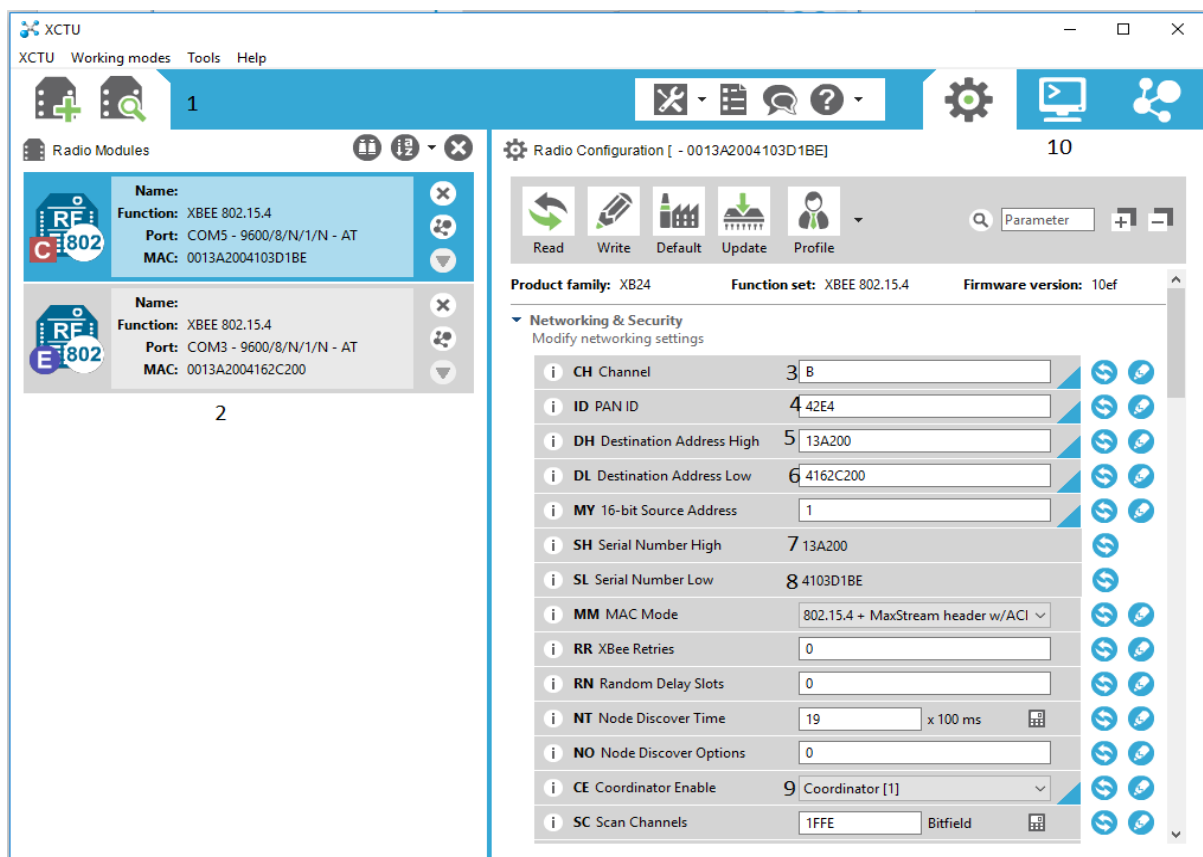
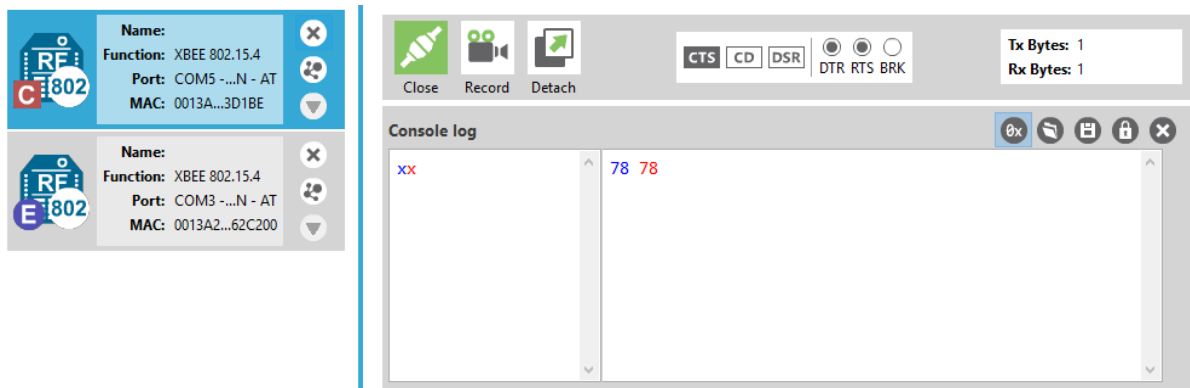

Figure 26. XCTU user interface.
Figure 27. Coordinator sending data (blue) and receiving data (red).
use graphical interface as shown in Figure 26. The first step for interfacing with the XBee modules is to detect the devices (1). When detected they appear as separate icons in the Radio Modules field (2). In order to establish a connection between the XBee's, their channels (3) and PAN (Personal Area Network) have to have the same value. Here the channel value goes from 0x0B to 0x1A (11-26) which represent the channel numbering of the 2.4 GHz frequency band –  $F_c = 2405 + 5(k - 11)$  in megahertz, for  $k=11,12,..26$ . Furthermore, the destination address DH and DL (5 and 6) on one of the XBees have to be identical to the serial numbers SH and SL (7 and 8) on the other XBee and vice-versa. In order to meet the 802.15.4 network topology requirements, one of the XBee modules is set to be a PAN coordinator (9) in order to establish a star topology. Finally, the console working mode (10) is entered so that data can be inputted and transmitted between the devices. This is shown in Figures 27 and 28.
In order to establish a connection between the USRP and the XBees the carrier frequency must be set in order to match the channel of the XBees. From Figure 26 the channel is B which from hexadecimal is 11  $\rightarrow$  carrier frequency of 2.405 GHz must be chosen (Note: The USRP suffers from high carrier frequency offset, which is more than the 802.15.4 standard can cope with.).